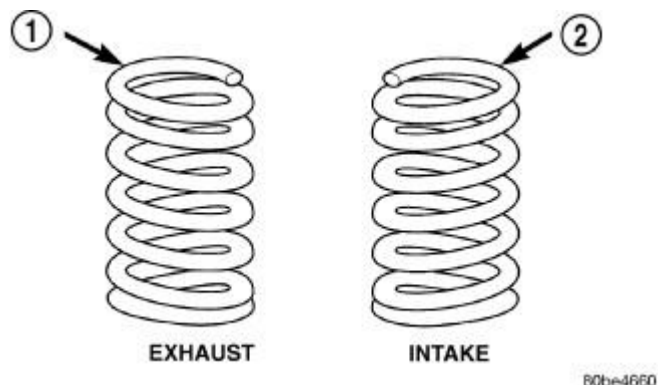

Fig. 294: Valve Spring Identification
4. Place valve spring (color-coded end facing up) and valve retainer into position on spring seat. Refer to **Fig. 294**. Refer to **Fig. 293**.